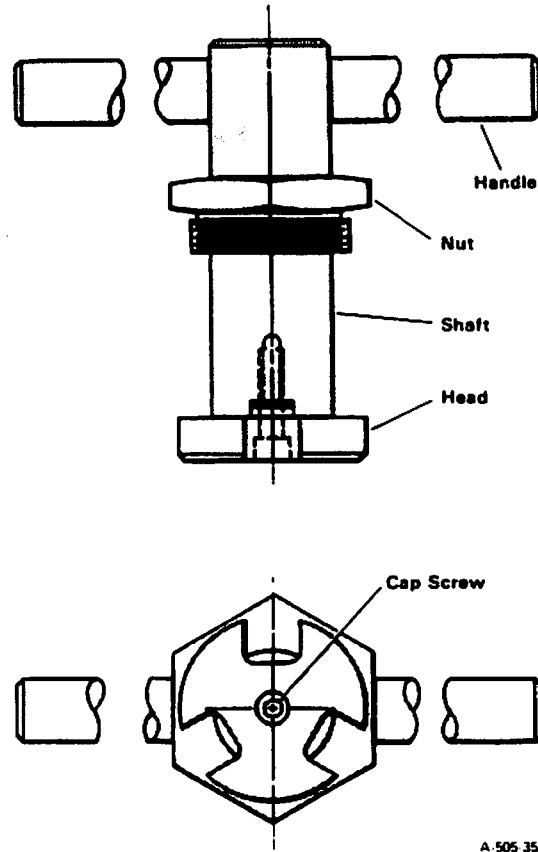

Figure 13. W.E Anderson Seat Ring Removal Tool, Part No. 153S22
12. If seat rings need to be replaced, remove them using tool, part number 153S22, Figure 13.
- b. Using seat ring tool, Figure 13, screw seat ring into valve body. Tighten seat ring to torque specifications listed in Table 3.